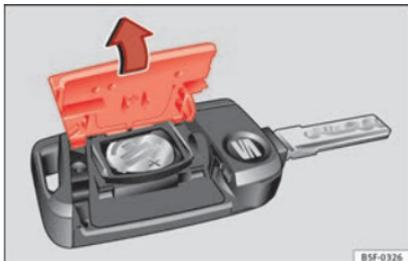

Fig. 134 Vehicle key: opening the battery compartment.
- Remove the cover from the back of the vehicle key »» Fig. 134 in the direction of the arrow »» ❶.
- Fit the cover as shown »» Fig. 134, pressing it onto the vehicle key casing in the opposite direction to that shown by the arrow until it clicks into place.